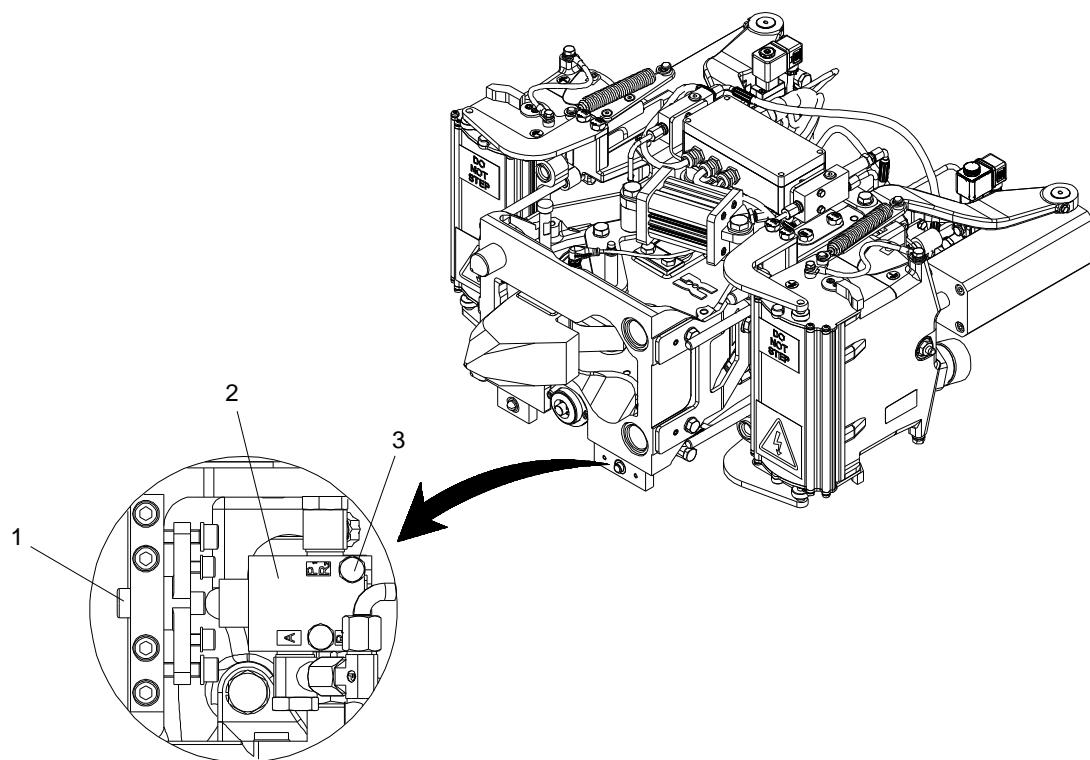

Figure 7-40: Adjustment of Key Indicator Valve (V5)
1. Loosen the screws (3). See Figure 7-40.
2. Press the plunger (1) and position the key indicator valve (2) so that it opens when the plunger (1) is flush with the mechanical coupler front face.
3. Tighten the screws (3) and recheck the adjustment.